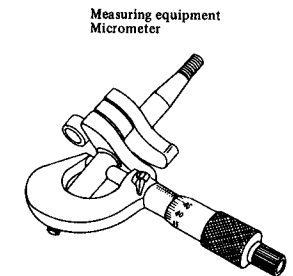

Fig. 7
(4) Clearance between crankshaft journal and main bearing (Fig. 7)